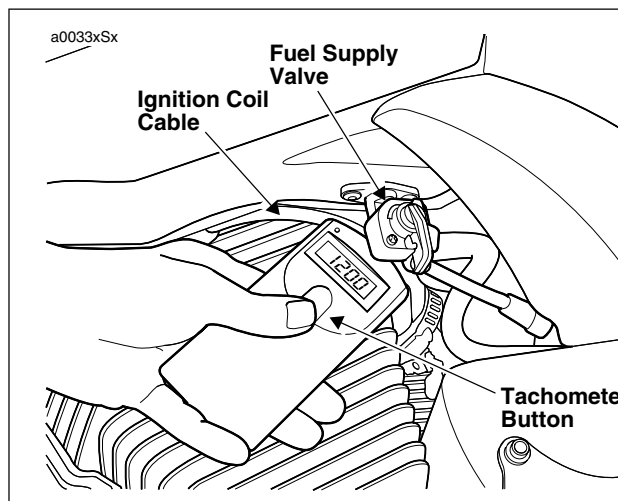

Figure 1-42. Checking RPM
2. See Figure 1-42. The ignition coil cable is located on the left side of the bike behind the fuel supply valve. Place HAND-HELD TACHOMETER (SNAP-On Part No. ONO-SE-1100) on ignition coil cable.